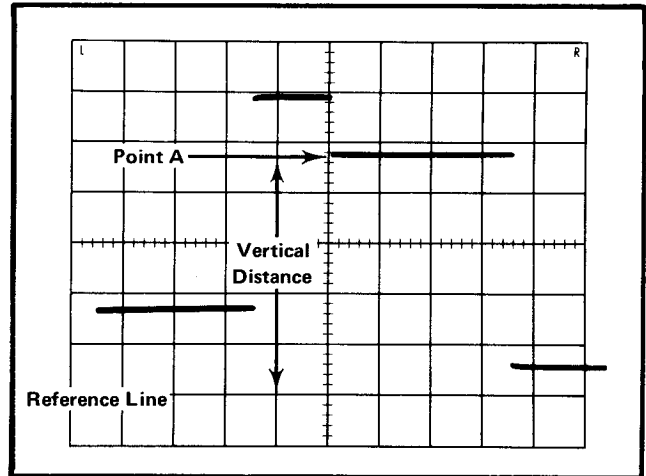

Fig. 2-4. Oscilloscope display when measuring instantaneous DC level.
5. Measure the vertical distance in divisions between the reference line and the point on the waveform at which the DC level is to be measured. For example, in Fig. 2-4 the measurement is made between the reference line and point A.